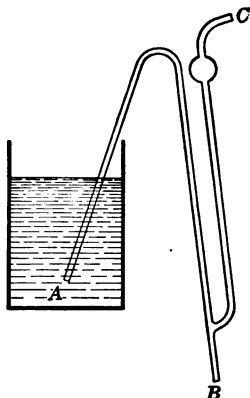

FIG. 70. — Aspirating siphon.
8. The *aspirating* siphon is used with corrosive liquids. Study Fig. 70, and then tell how you would fill such a siphon with liquid to start its action.